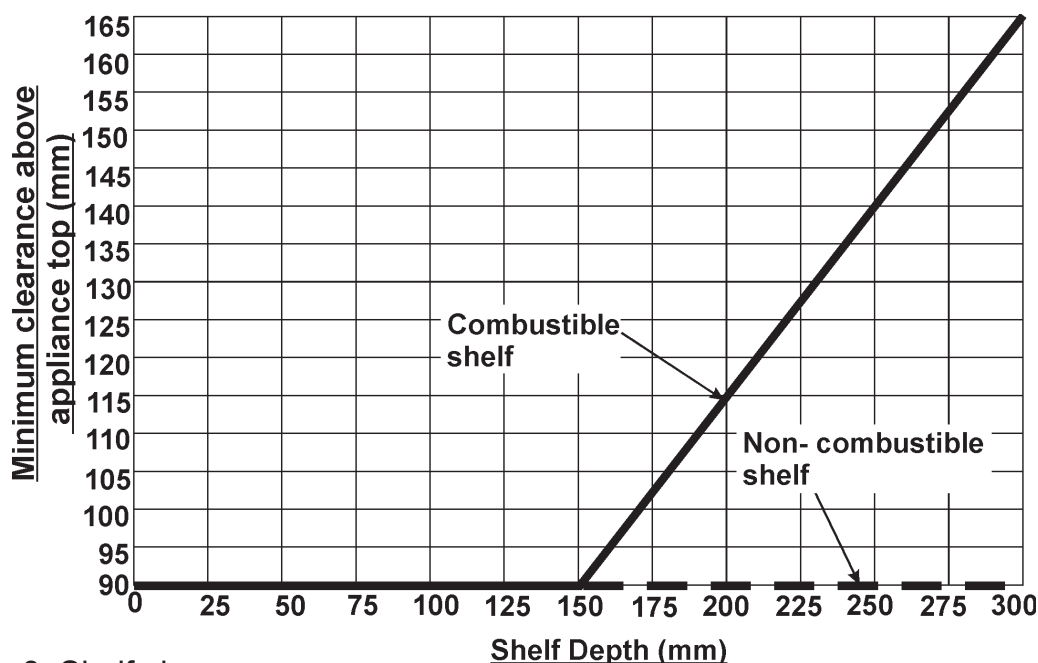

Figure 3. Shelf clearances
- For a shelf deeper than 150mm: 90mm + 12.5mm for every 25mm depth over 150mm (See Figure 3).